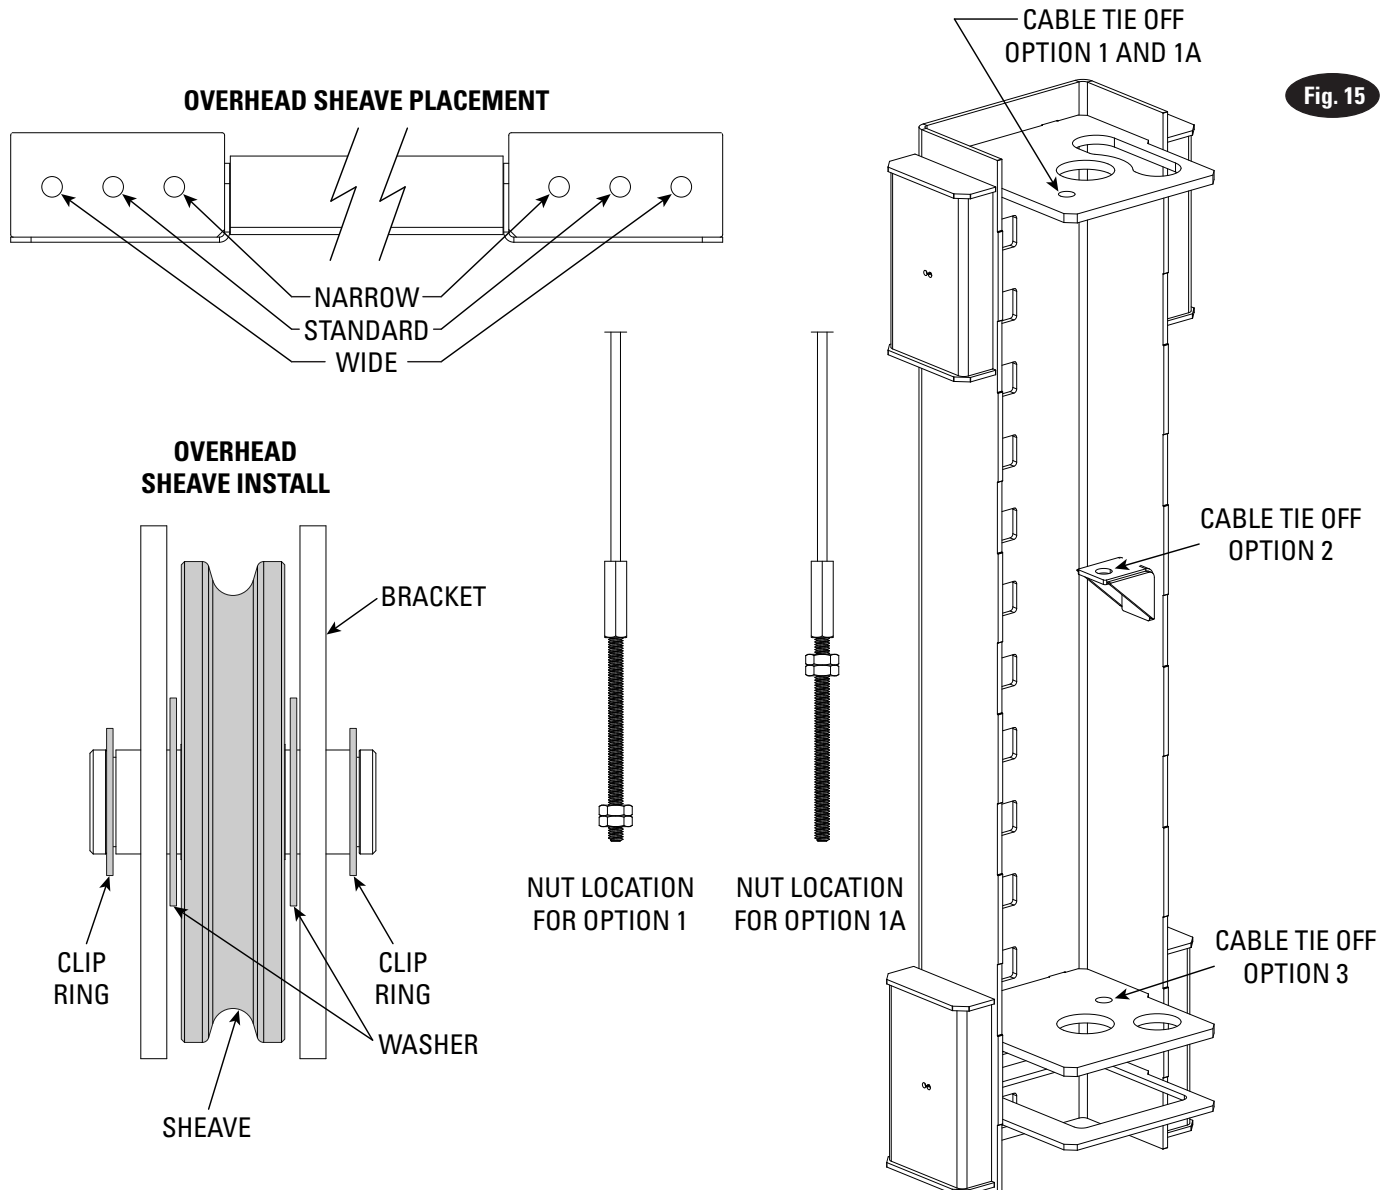

Fig. 15
12. Equalizer Cables: Fig. 15 describes general cable arrangements. It is easier to tie-off lower (short) cable studs first. **Notice**, long cable studs must be located on top, Fig. 14.
A) Run cable stud up through the lower tie-off plate, and/or bracket(s), and/or spacer(s) depending on the lift model, Fig. 15.
B) Push cable up until stud is above top of carriage Fig. 15.
C) Run nylon insert locknut onto studs so that 1/2" extends out from locknut Fig. 15.
D) Pull cables back down through carriage Fig. 15.
E) Run cable overhead and tie-off top (long) cable studs and torque to about 100 in-lbs., see Fig. 14 & Fig. 15.
21. Final Adjustments: Raise lift to check equalizer cable tension. Below carriage, grasp adjacent cables between thumb and forefinger, with about 15 lbs. effort you should just pull the cables together. Adjust at upper tie-offs, Fig. 15.